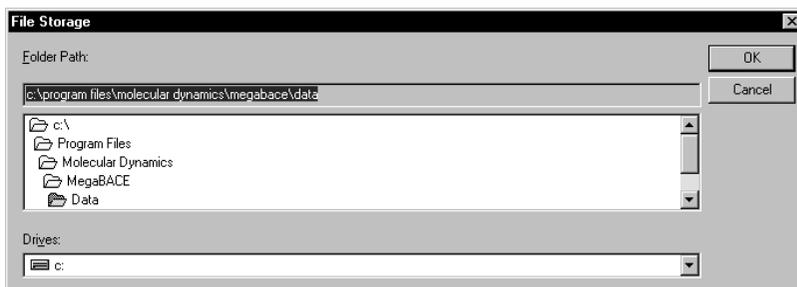

Figure 3-7. The File Storage window.
1. Choose **File Storage** from the Options menu. The File Storage window appears (figure 3-7).